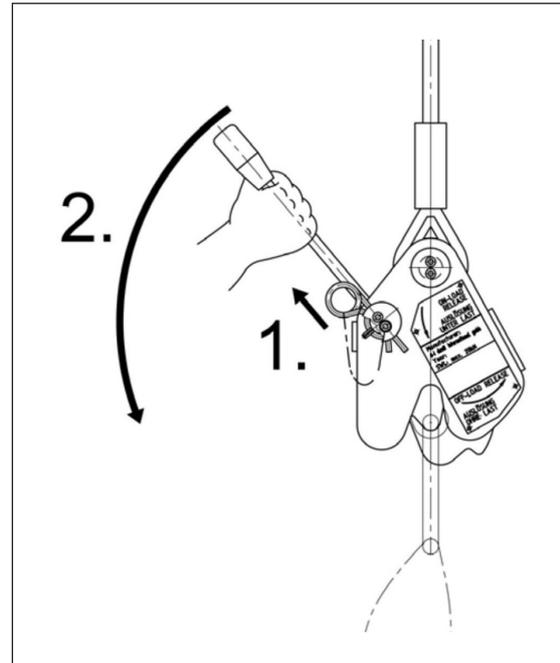

Figure 5: On-load release
On-load release (figure 5): If the normal method did not work, or the boat's suspension had to be released, when the suspension was not slack, the pin would have to be removed (1) and the release handle pulled down (2). Then the pawl holding the boat's suspension would automatically be released.